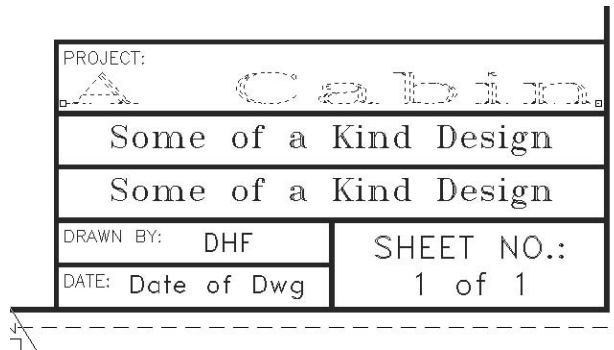

FIGURE B.19: The project-title text in its final position
13. Hold down the Shift key and click both grips. Release the Shift key, click one of the grips, and then click a point directly below the grip you just clicked, near the bottom of the box. This positions the text (see Figure B.19).